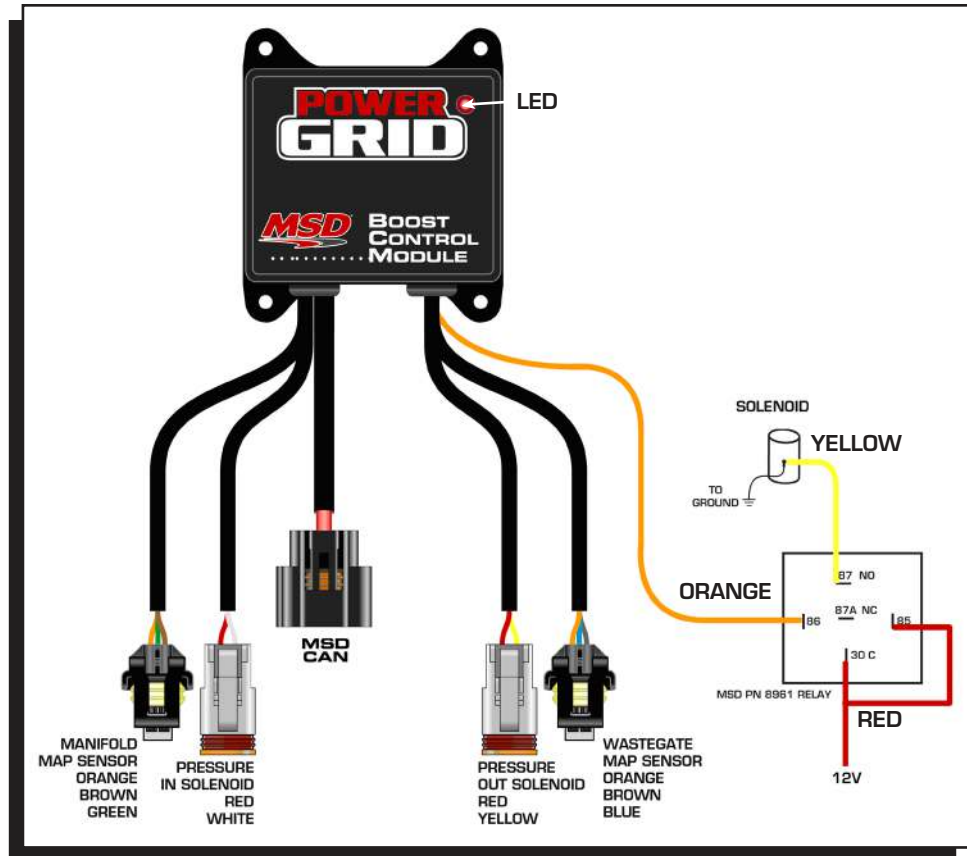

Figure 3 General wiring
3. The orange wire switches to ground when active. Use a relay to activate devices that consume more than 2 amps (Figure 3).
Boost Pressure Switch: The Orange wire switches to ground while the set boost pressure is exceeded. The Orange wire can sink up to 2 amps of current (continuous) to ground (Figure 3). The default setting is 75PSI and can be adjusted from 0psi to 75PSI.